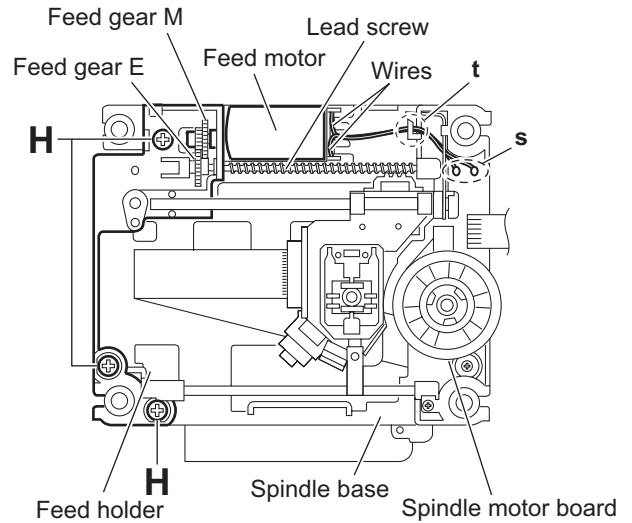

Fig.11
- (4) Remove the wires from the soldered section **s** on the spindle motor board. (See Fig.11.)
When attaching the feed motor, pass the wire through the section **t** on the spindle base. (See Fig.11.)
- (5) Remove the feed holder, feed motor, lead screw, feed gear E and feed gear M at the same time after removing the three screws **H** attaching the feed holder. (See Fig.11.)
3.2.8 Removing the spindle motor board (See Figs.11 and 13)
- (1) From the top side of the traverse mechanism assembly, remove the wires from the soldered section **s** on the spindle motor board. (See Fig.11.)